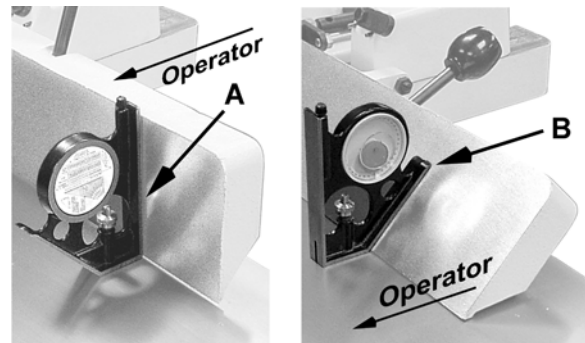

Figure 13
2. Move the fence by releasing *lock handle* (A) and pushing the fence assembly until it overlaps the tables.
3. Tighten *lock handle* (A).
4. Adjust the fence to a 90° angle by releasing *lock handle* (B), pulling up on the *fence handle* (E), and tightening the *lock handle* (B).
**Note:** The *stop bolt* (F) should be resting against the *stop plate* (C).
5. Place an angle measuring device on the table and against the fence to confirm a 90° setting (A, Fig. 13).
6. If the fence is not square to the table, release the *lock handle* (B), loosen the *lock nut* (D) that secures the *stop bolt* (F), and turn the stop bolt until the fence is square to the table.
7. Tighten the *lock nut* (D) to secure the *stop bolt* (F) which retains the setting.
8. Tighten the *lock handle* (B).
1. Loosen the lock handle (B).
2. Move the stop plate (C) out of the way and position the fence at the 135° angle; fence tilt lever (E) is positioned away from the operator as shown. Make sure the fence sits against the *stop bolt* (H).
3. Tighten the lock handle (B).
4. Place an angle measuring device on the table and against the fence to confirm a 135° setting (B, Fig. 13).
5. To adjust, loosen the *lock nut* (J) securing the *stop bolt* (H) and turn the stop bolt until a 135° angle is obtained.
6. Tighten the *lock nut* (J).